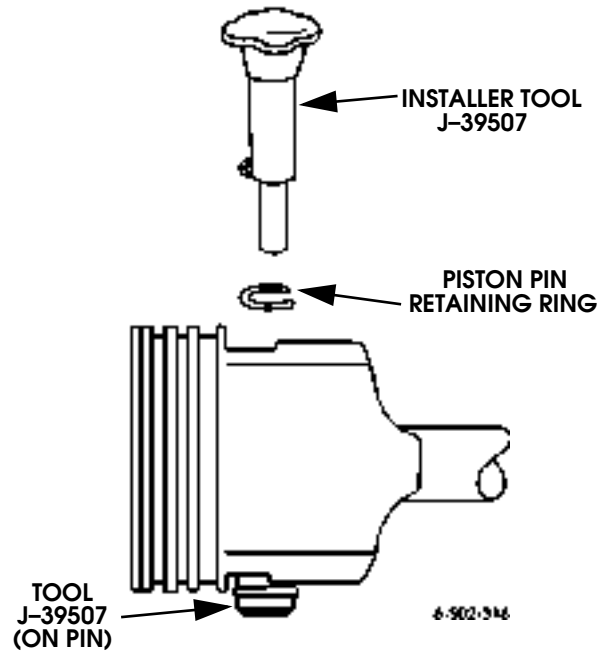

Figure 2-123: Positioning Pin for Installation of First Retaining Ring
- b. Install tool J-39507 on one end of piston pin (Figure 2-123).